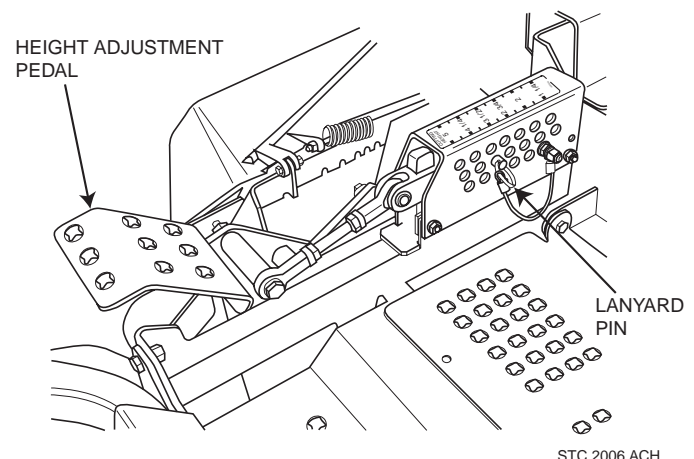
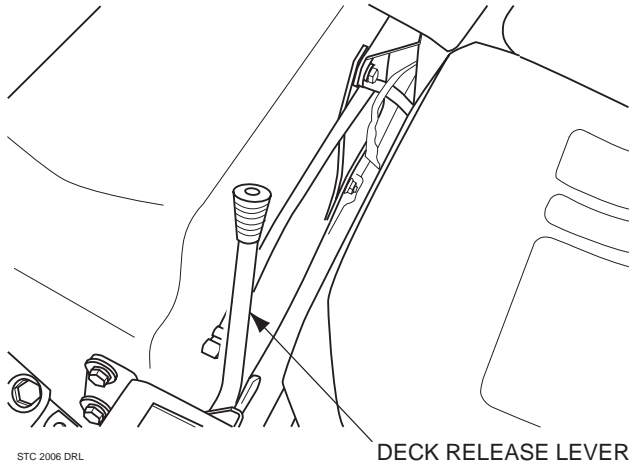

Figure 4-5. Adjusting Cutting Height
Figure 4-6. Deck Release Lever
2. Push the cutting height adjustment foot pedal all the way forward using your right foot until it locks in place. See Figure 4-5.
3. Insert the lanyard pin into the cutting height index at the desired cutting height. Push forward on the deck lift foot lever, hold in place and pull back on the deck release lever. See Figure 4-6. Slowly release the foot pedal. A deck height decal is located on the cutting height index as an aid in adjusting the deck to the desired height. See Figure 4-5.